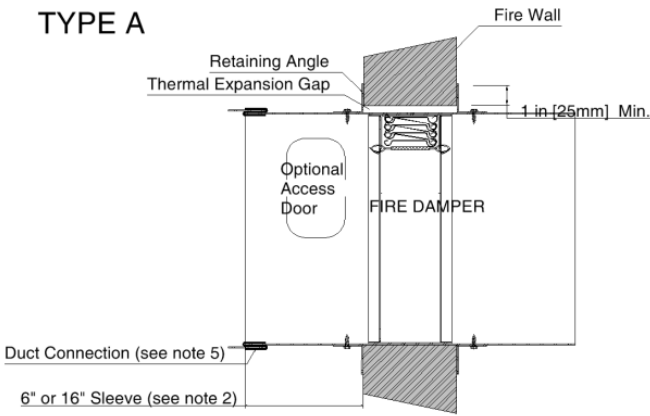
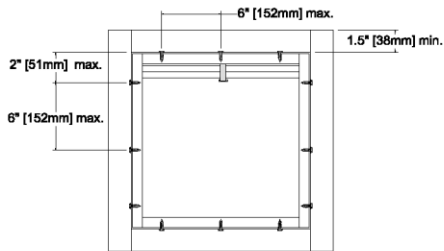

Figure 1
Figure 5
4. SECURING DAMPER IN OPENING (2 ANGLE METHOD): In this method 2 sets of angles are used to secure the damper in the opening, one on each side of the partition (See Figures 1 through 5). Two Angle Method is approved for 3 hour. installations and any maximum size multi-section UL approved damper. Angles shall be a minimum of 1 1/2" x 1 1/2" (38mm x 38mm) x 16 Ga. The angles are to overlap the partition a minimum of 1" (25mm). These angles may be of a unit type construction and may or may not be fastened to each other at the corners. Angles are to be fastened to the sleeve on 6" centers with #10 (M5mm) sheet metal screws, 3/16" (5mm) steel pop rivets, 1/2" (13mm) tack welds, or 1/4" (6mm) diameter nut and bolts and not more than 2" (51mm) from each end with a minimum of two connections per side/leg. When the duct work terminates at the damper or installation prohibits angles from turning out/away from the wall, the retaining angle shall be reversed (leg turned into the opening) providing the size of the opening is increased by an amount equal to twice the combined thickness of the angle and the height of the screw or bolt head to maintain expansion clearances. See Note 1A for information on clearances. See Fig. 5 for detailed drawings of installations. Retaining angles should not be fastened to the wall material. The angles should only sandwich the partition and allow for damper / sleeve expansion during periods of intense heat.